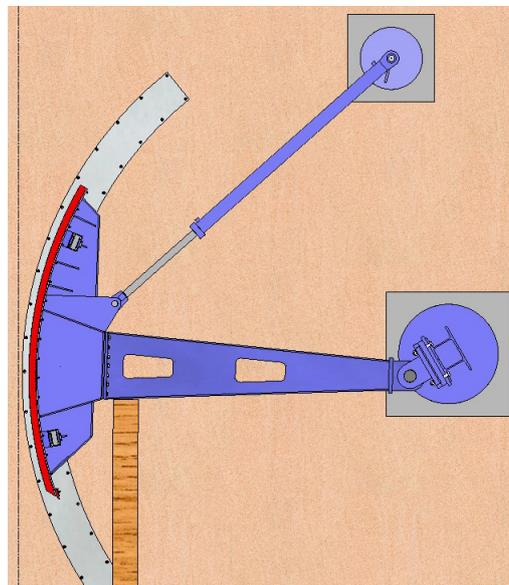

Fig. 16
2. Position the penstock half-open and secure the stopboard in this position, e.g. using timber battens, slings, etc. (fig. 16).